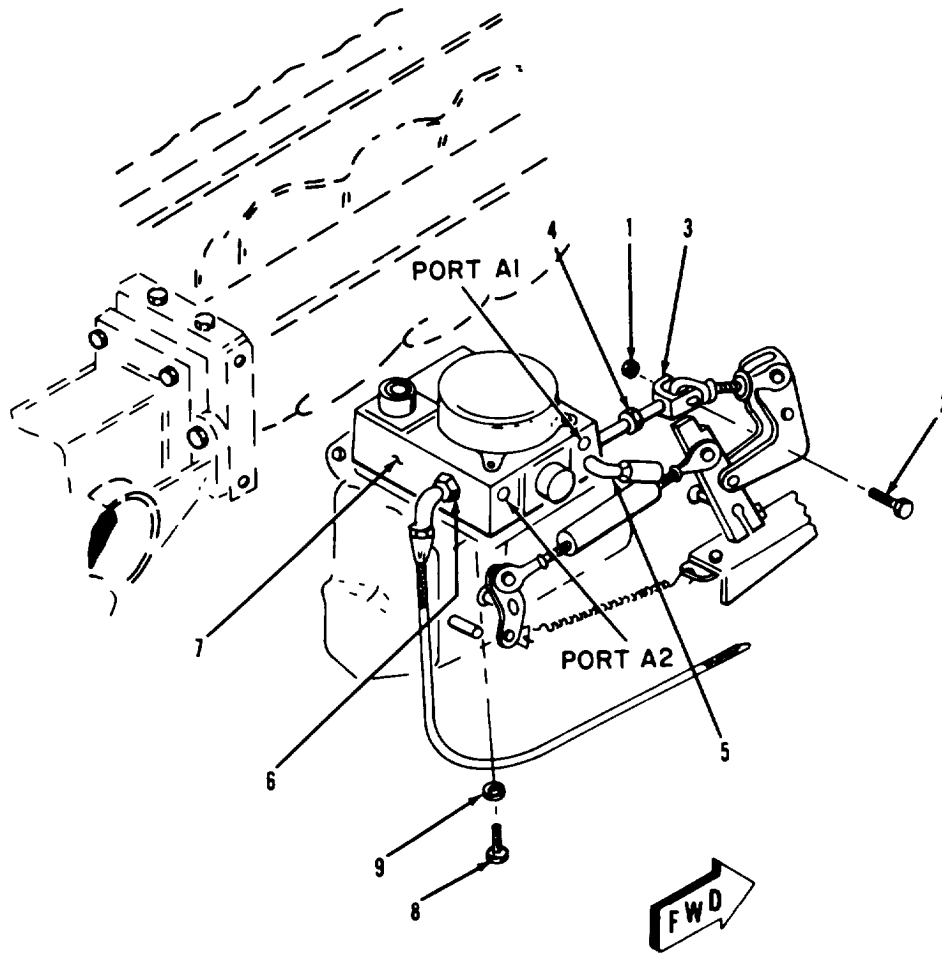

Figure 8-25. Governor actuator unit, removal and installation (precise sets only)
4. Check pressure output of hydraulic actuator by removing plugs in ports A1 and A2 (figure 8-25) and inserting 0 to 400 PSI range gauges. The pressure at each port should be 160 ± 25 PSI and equal, with engine operating under governor control.
b. Removal. Refer to figure 8-25 and remove governor actuator unit in order of
Legend to figure 8-25: